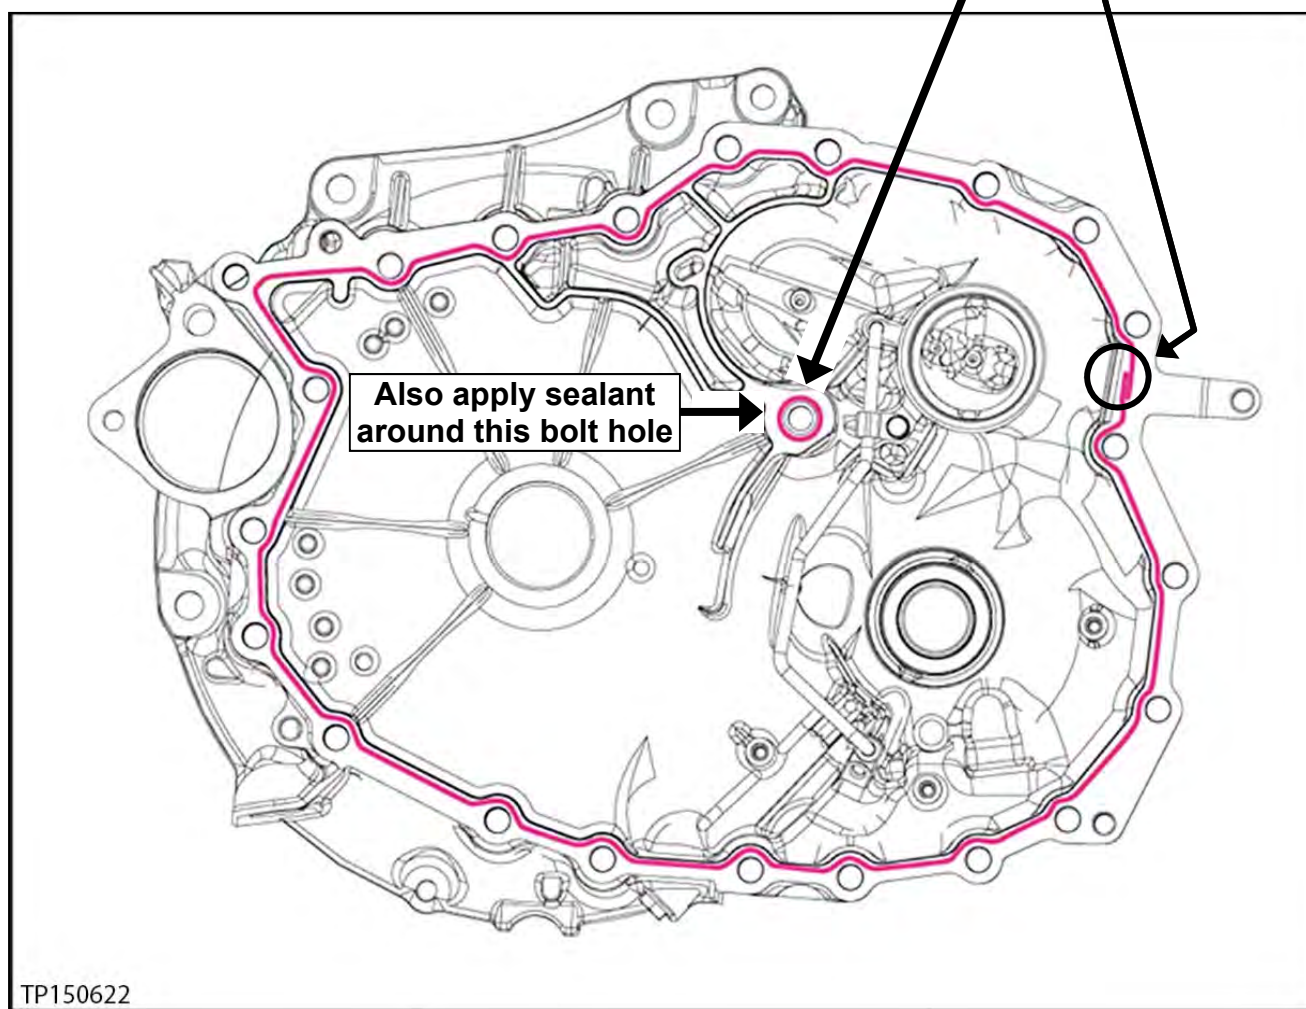

Figure 137
110. Apply one continuous 2.0 mm (**0.8 inches**) diameter bead (Figure 137) of pink colored Loctite 5460 Sealant (see the Parts Information section of this bulletin).
- Before sealant application, make sure the mating surfaces are clean from oil, dirt, old sealant, etc. (Figure 137).